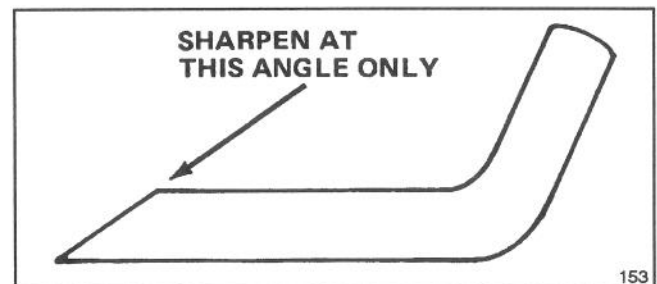

Figure 27
6. SHARPENING BLADE—Using a file, sharpen top side of blade (side facing mower housing) and maintain original cutting angle (Fig. 27). The blade will remain balanced if the same amount of material is removed from both cutting edges.